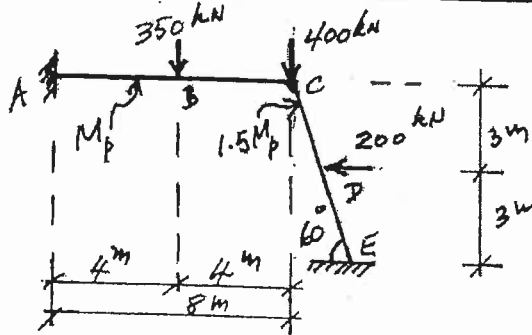

FIGURE 5
6. (a) Use the Plastic Method of Design to select steel sections for the steel rigid frame ABCDE in Figure 5.
7. For the loaded steel rigid frame in Figure 5: